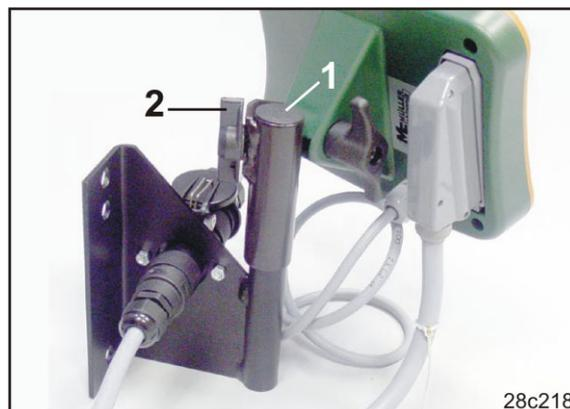

Fig. 18
1. Fit the counterpart (Fig. 18/1) onto the bracket and clamp it in place with the wing screw (Fig. 18/2).